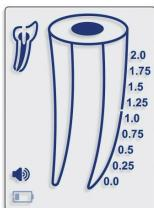

Fig. 2
- 5.2.2. When the battery level is low, the flashing Low Battery indicator will appear on the screen (Fig.2). Endo-Eze™ Find® will continue normal operation even with a low battery, but the battery should be replaced before it loses all power.